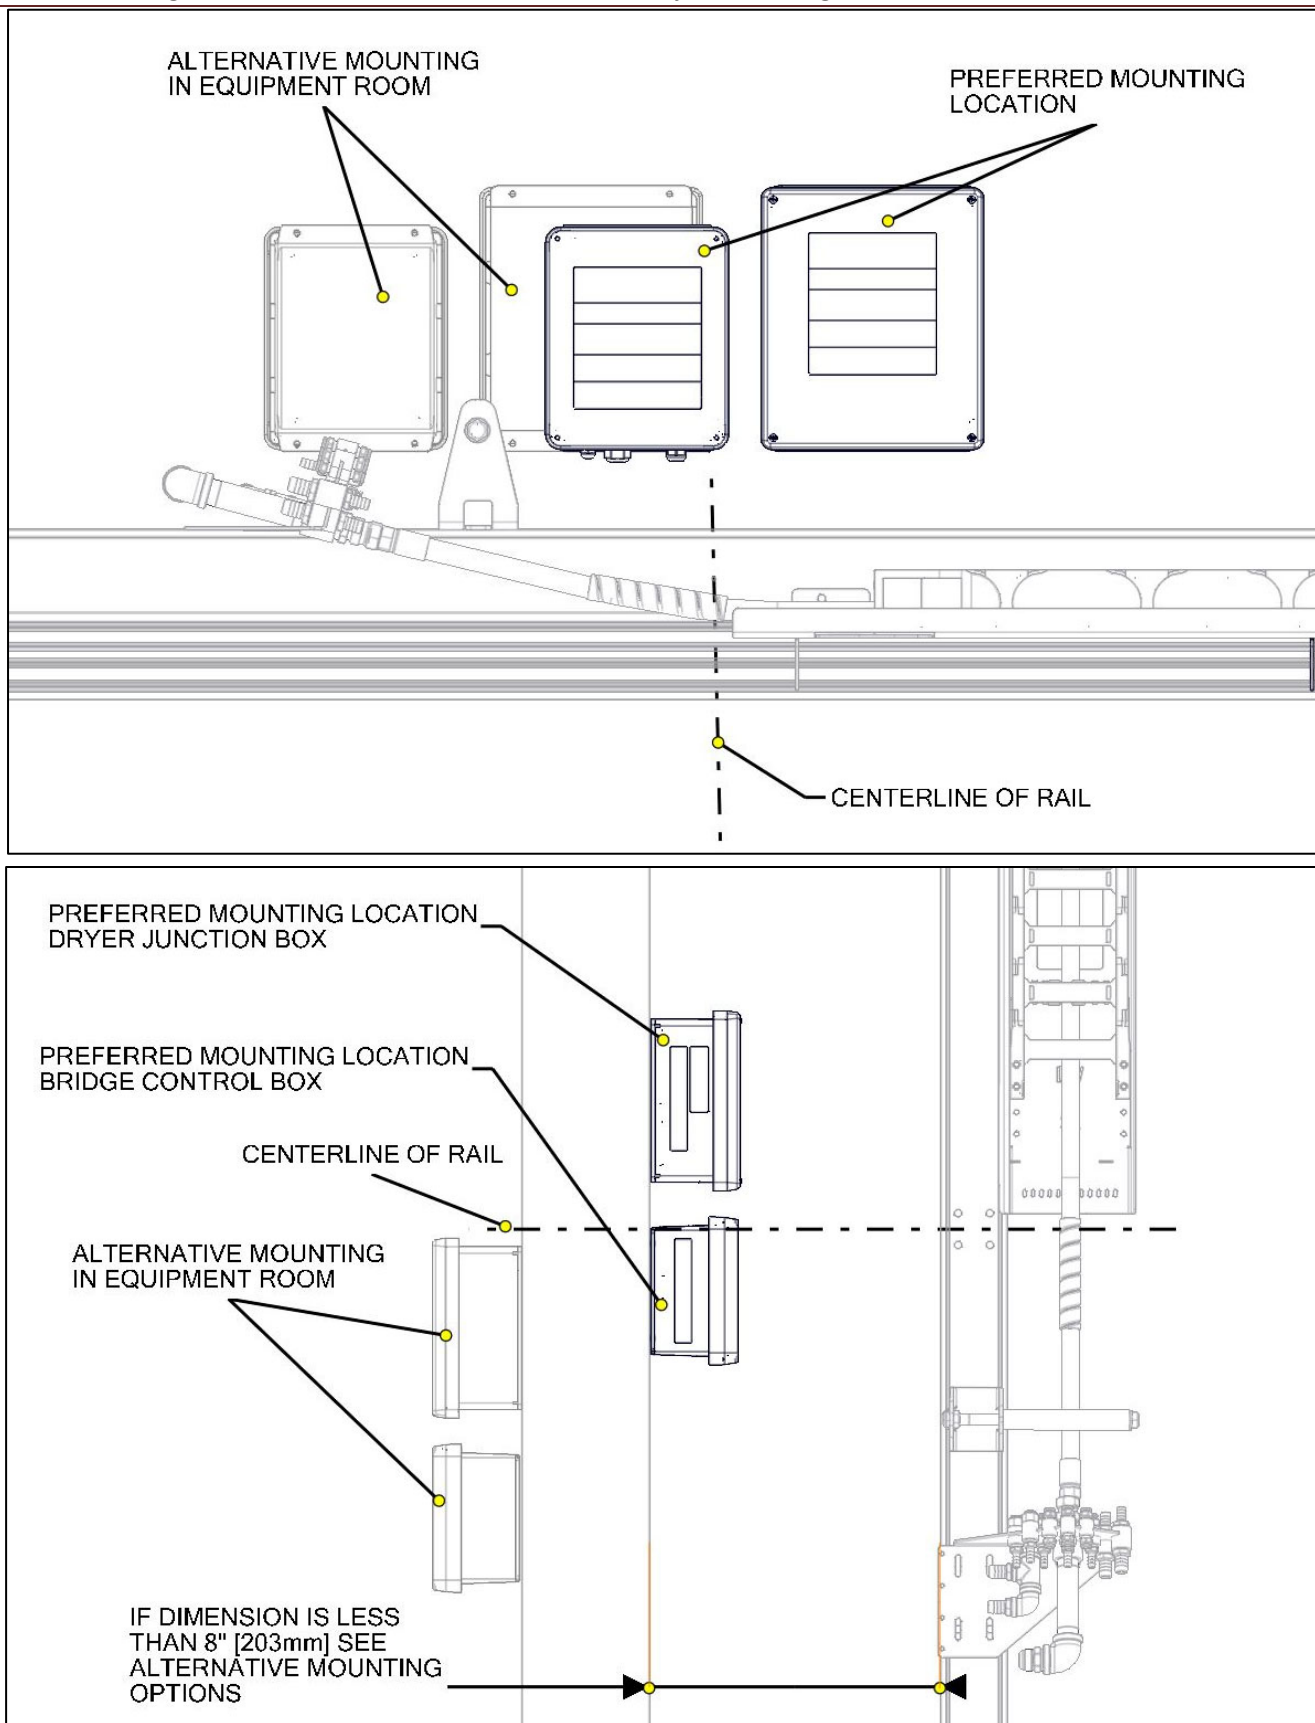

Figure 71 – Bridge Control and Dryer Distribution Junction Box Location
- An example is provided in Figure 71. For narrow wash bays, please note proper clearance to with Wash Bridge. If required see alternative mounting positions.